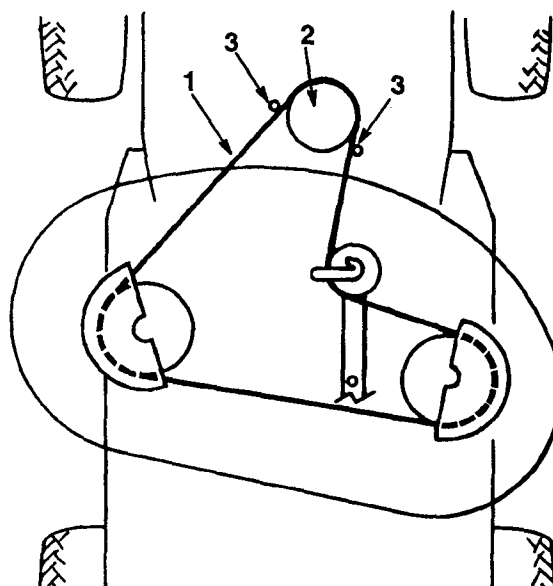

Figure 42
10. Remove the mower belt from the lower engine pulley (Fig. 42). If you are careful, you can flex the belt guide(s) just far enough away from the pulley to remove the belt. If it is too difficult to remove the belt, loosen the bolts and nuts securing the belt guides.
4. Install mower belt onto the lower engine pulley (Fig. 42). If you are careful, you can flex the belt guide(s) just far enough away from the pulley to install the belt. If it is too difficult to install the belt, loosen the bolts and nuts securing the belt guides, loosen the bolts and nuts securing the belt guides.